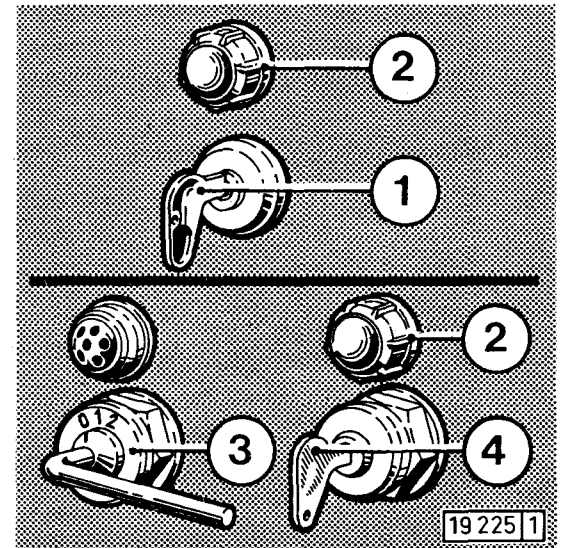

Fig. 60
- Insert switch key 4 (Fig. 60). Battery charging indicator lamp should then light up.
- Preheat for 1 minute in preheating position 1 of heater plug/starter switch 3 (Fig. 60). Heater plug indicator 5 should then light up brightly. If not, the plug is faulty or connection is interrupted.